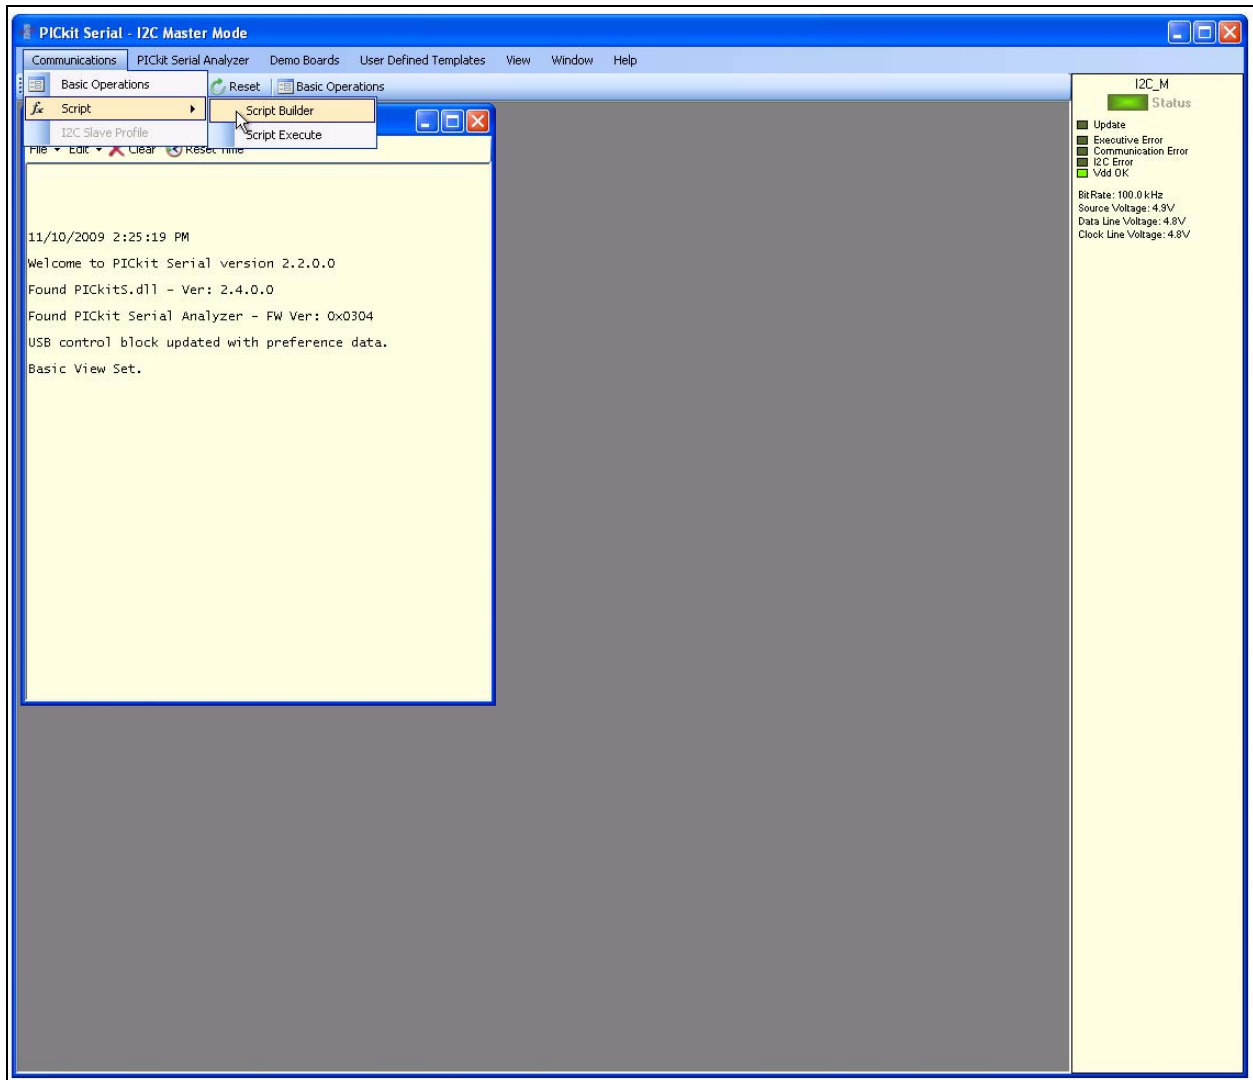

FIGURE 2-7: PICkit Serial - Script Bulider Menu Selection.
Now we are going to create some custom scripts to match the MCP40D18 read and write commands. To open the Script Builder window, select the Communications -> Script -> Script Builder menu item (see Figure 2-7).
7. Open the Script Builder window (see Figure 2-7).